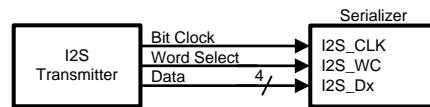
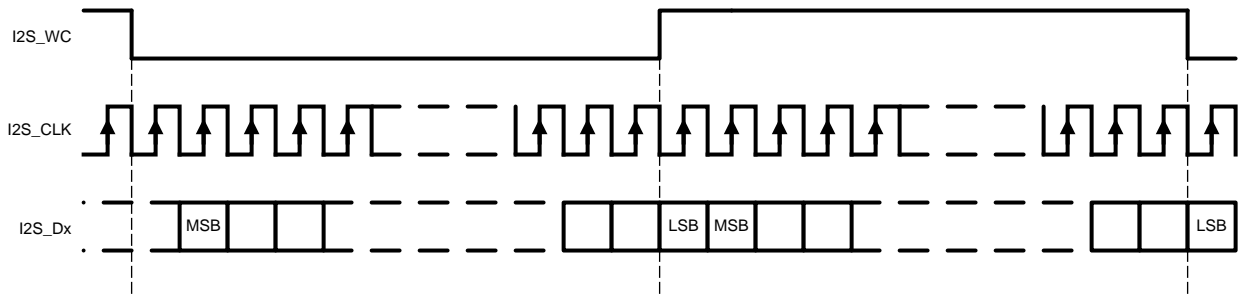

Figure 21. I2S Connection Diagram
Figure 22. I2S Frame Timing Diagram
The DS90UB947-Q1 serializer features six I2S input pins that, when paired with a compatible deserializer, supports 7.1 High-Definition (HD) Surround Sound audio applications. The bit clock (I2S_CLK) supports frequencies between 1MHz and the lesser of CLK/2 or 13MHz. Four I2S data inputs transport two channels of I2S-formatted digital audio each, with each channel delineated by the word select (I2S_WC) input. Refer to Figure 21 and Figure 22 for I2S connection diagram and timing information.